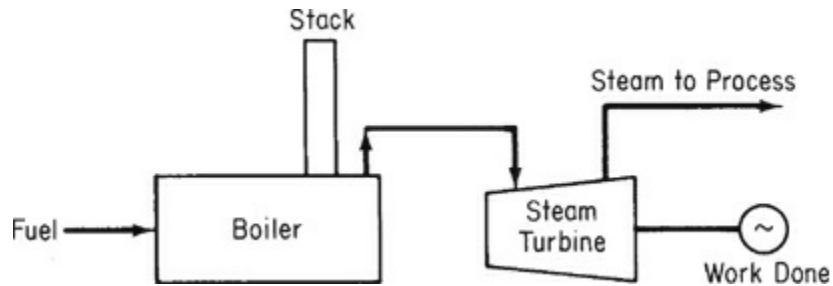

Figure P8.6.12
- b. Cogeneration (generation of steam for both power and heating) involves the use of gas turbines or engines as prime movers, with the exhausted steam going to the process to be used as a heat source. A typical installation is shown in Figure P8.6.12.